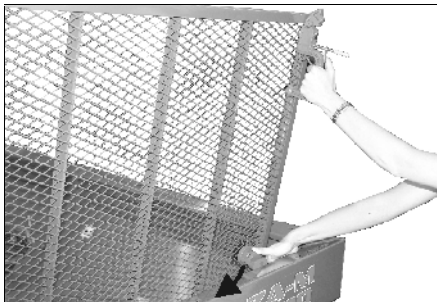

Fig. 15
- Prior to closing the guard screen press down the locking device (Fig. 15).